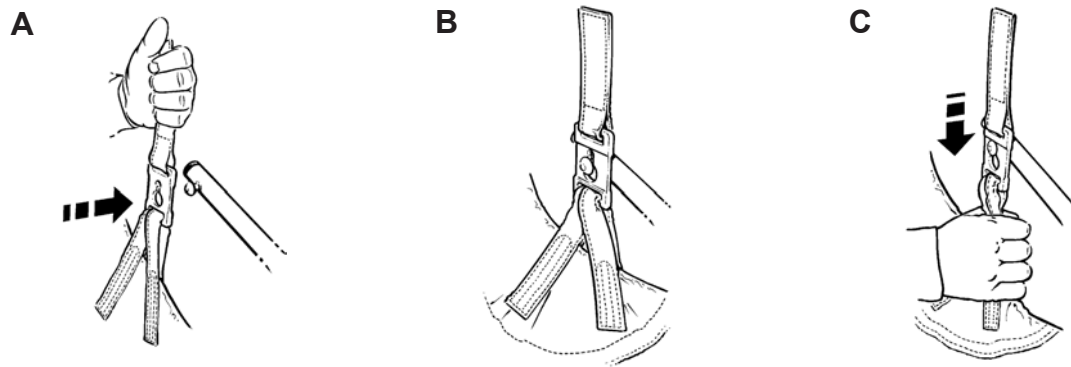

Figure 25
**IMPORTANT:** Always check that the sling attachment clips are correctly attached and remain in tension as the weight of the resident is gradually taken up. See figure 25.
Connect these first, then tilt the frame and attach the leg sections. See figure 25.